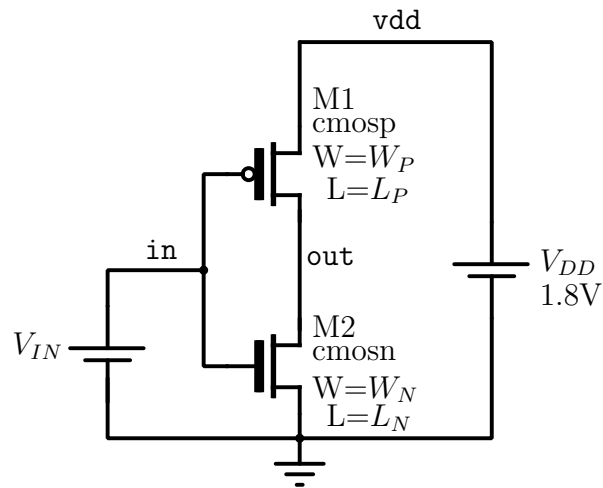

Figure 3.1. Electrical schematic for obtaining VTC of a CMOS inverter.
- Write the netlist of the circuit given in Figure 3.1 for obtaining VTC of a CMOS inverter.